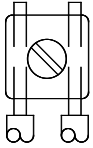

Figure 5
- Break all in-out wire runs on supervised circuits to ensure the integrity of the circuit supervision as shown in Figure 5. The polarity shown in the wiring diagrams is for operation of the appliances. The polarity is reversed by the FACP during supervision.